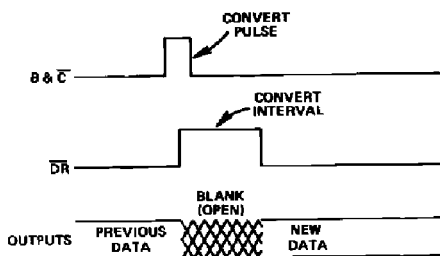
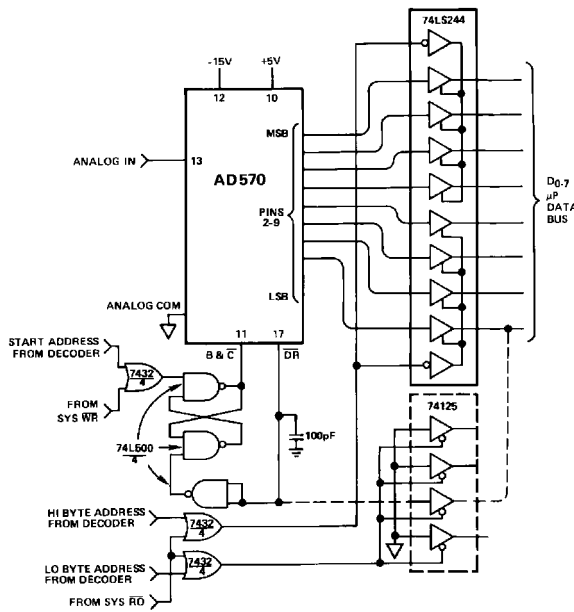

Figure 10. Convert Pulse Mode
Figure 13. Interfacing AD570 to an 8-Bit Bus (8080 Control Structure)
**Convert Pulse Mode**—In this mode, data is present at the output of the converter at all times except when conversion is taking place. Figure 10 illustrates the timing of this mode. The BLANK and  $\overline{CONVERT}$  line is normally low and conversions are triggered by a positive pulse. A typical application for this timing mode is shown in Figure 13, in which  $\mu\text{P}$  bus interfacing is easily accomplished with three-state buffers.
The AD570 can easily be arranged to be driven from standard microprocessor control lines and to present data to any standard microprocessor bus (4-, 8-, 12- or 16-bit) with a minimum of additional control components. The configuration shown in Figure 13 is designed to operate with an 8-bit bus and standard 8080 control signals.